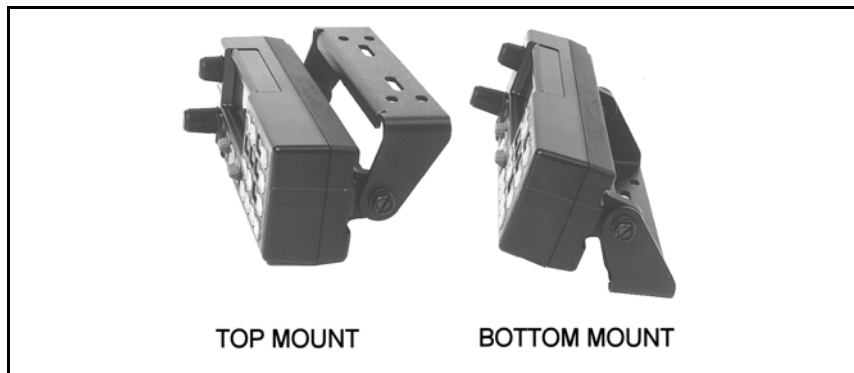
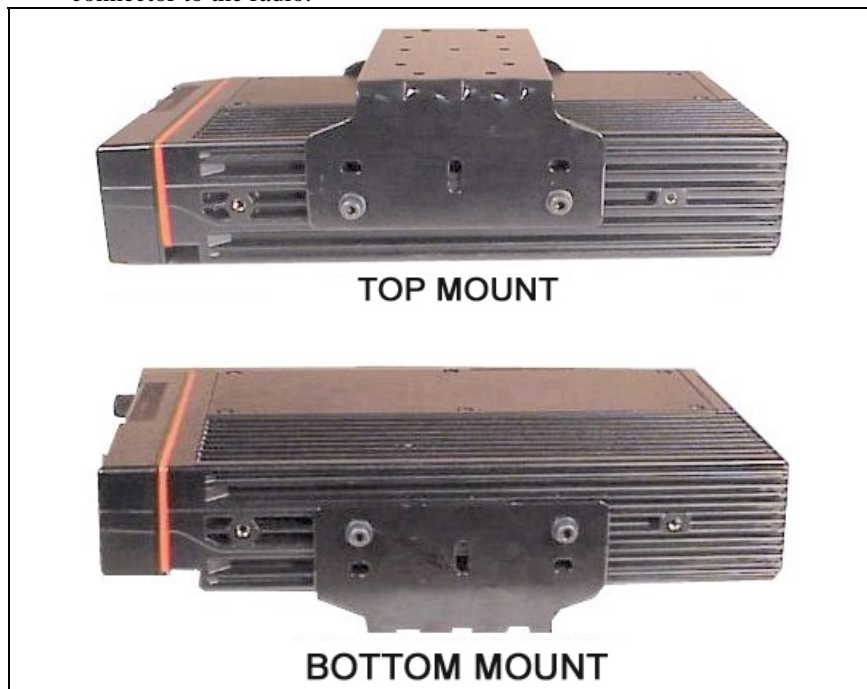
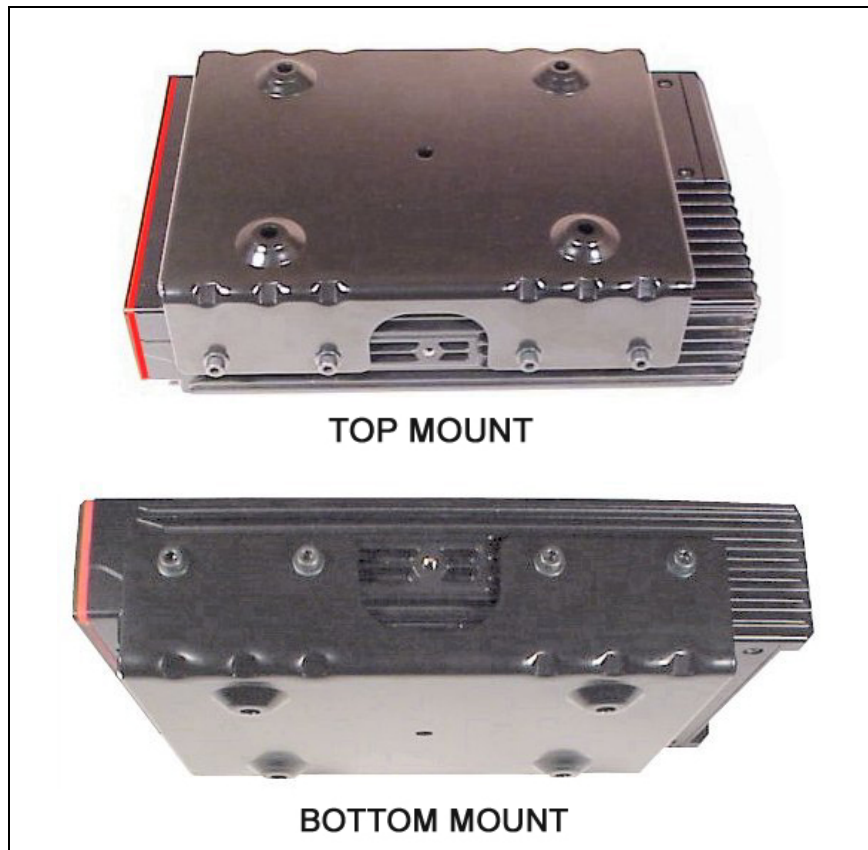

Figure 12 – Control Unit Mounting Bracket Installation
Figure 19 – Mounting Bracket Installation
Figure 20 – Remote Mounting Bracket Installation
1. Using the bracket as a template, mark and drill the mounting holes. Be sure to leave enough room at the rear of the control unit for the cable connector and to allow the unit to swivel. Refer to Figure 12 for control unit mounting bracket installation.
Typically, the bracket shown in Figure 19 is used for Front Mount applications. The bracket can be mounted so that it is either above or below the radio for the user's convenience. The bracket pictured in Figure 12 can also be used for Remote Mount applications. The following instructions are for a Front Mount installation using the bracket shown in Figure 19.
The bracket shown in Figure 20 is used in Remote Mount configurations. In some applications, the bracket shown in Figure 19 can also be used for Remote Mount installations. The following instructions are for a Remote Mount installation using the bracket shown in Figure 20.
3. Slide the radio unit into the bracket by aligning bracket guides with grooves on each side of radio (rear of radio should be inserted first). Slide radio back until screw holes in front of bracket align with screw holes in side of radio. See Figure 20.